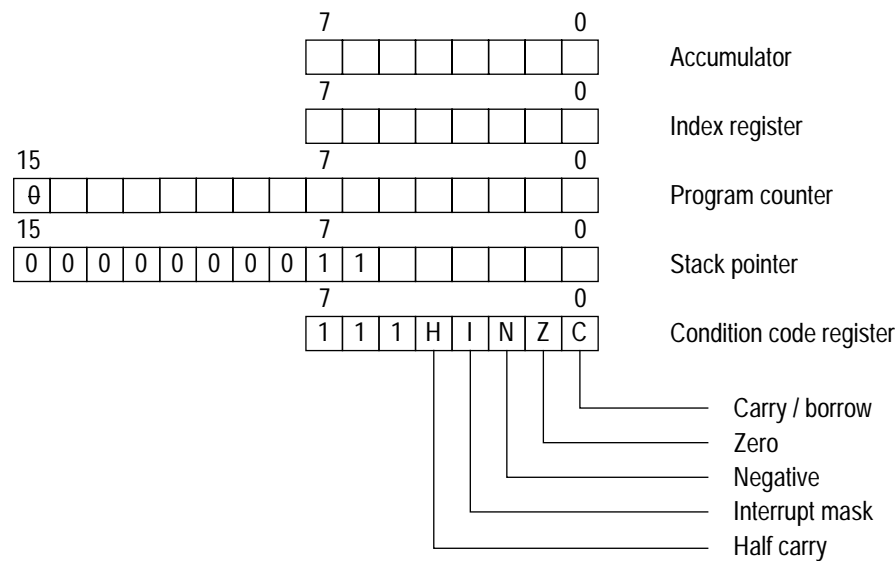

Figure 57. Programming model of the MC68HC05D24
The programming model of the MC68HC05D24 is identical to that of the MC68HC05D9, except for the program counter (see Figure 57). Only bit 15 of the program counter (PC) in the MC68HC05D24 is permanently